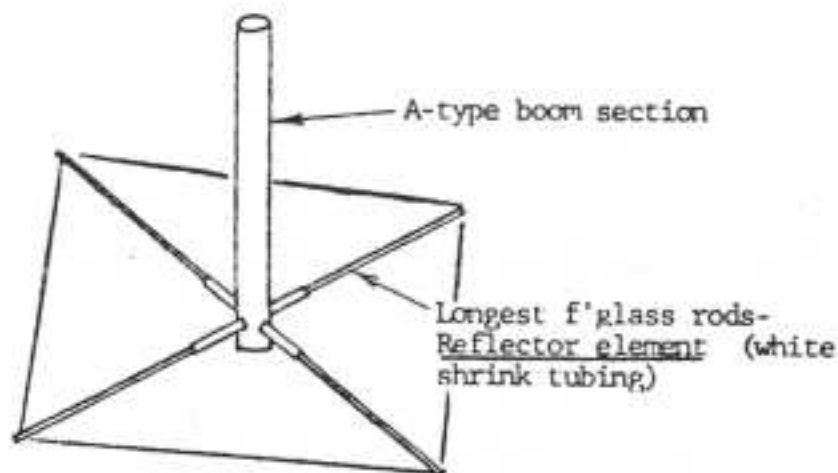

figure 5
- 6) There are 6 bundles of fiberglass rods. Select the 4 longest rods, and insert them in the 1/2" dia rod support brackets in the A-type boom section from step 2. (The drilled end of the rods must be away from the boom). Carefully unroll the REFLECTOR element wire. This wire is identified by WHITE shrink tubing, marking the points of attachment to the fiberglass rods. Attach the wire to the rods using 4 wire clamps and 4-40 hardware, including 4-40 X 3/4 bolts, nuts, & lockwashers. Refer to figures 5 & 6.